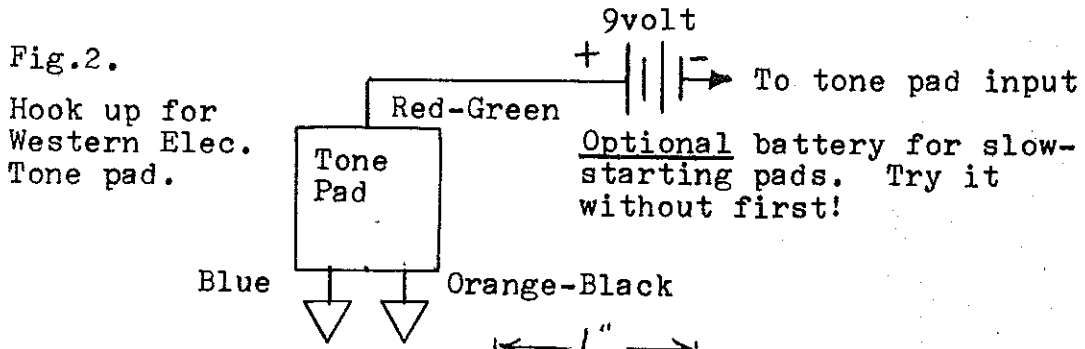

Fig.2.
3. Tone pad adjustment. Connect a standard telephone-type tone pad to the tone input terminal and ground as shown in fig. 2. Adjust R15 for the highest level possible before audible distortion sets in. Either too high or too low a level may prevent the decoding system from responding properly.